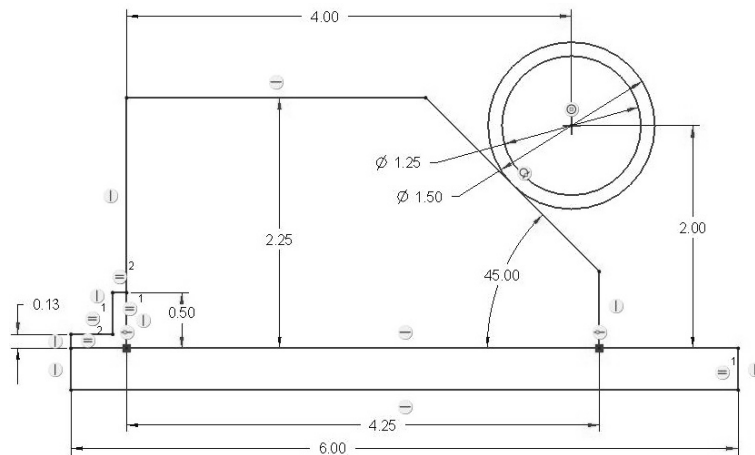

Figure 3-55 Sizing the Block
Step 12:  Use the **dimension** tool if necessary to dimension the height and base of the jig. Set the height to 2.25 inches. See Figure 3-55.
- Step 14:** The base dimension can be any value; however, a value near 4.25 inches looks reasonable. See Figure 3-55. To change a dimension, *double-click* LMB on it, then type in the new value followed by the <Enter> key. Will a base size of 4.5, 4.0, or 3.25 work?